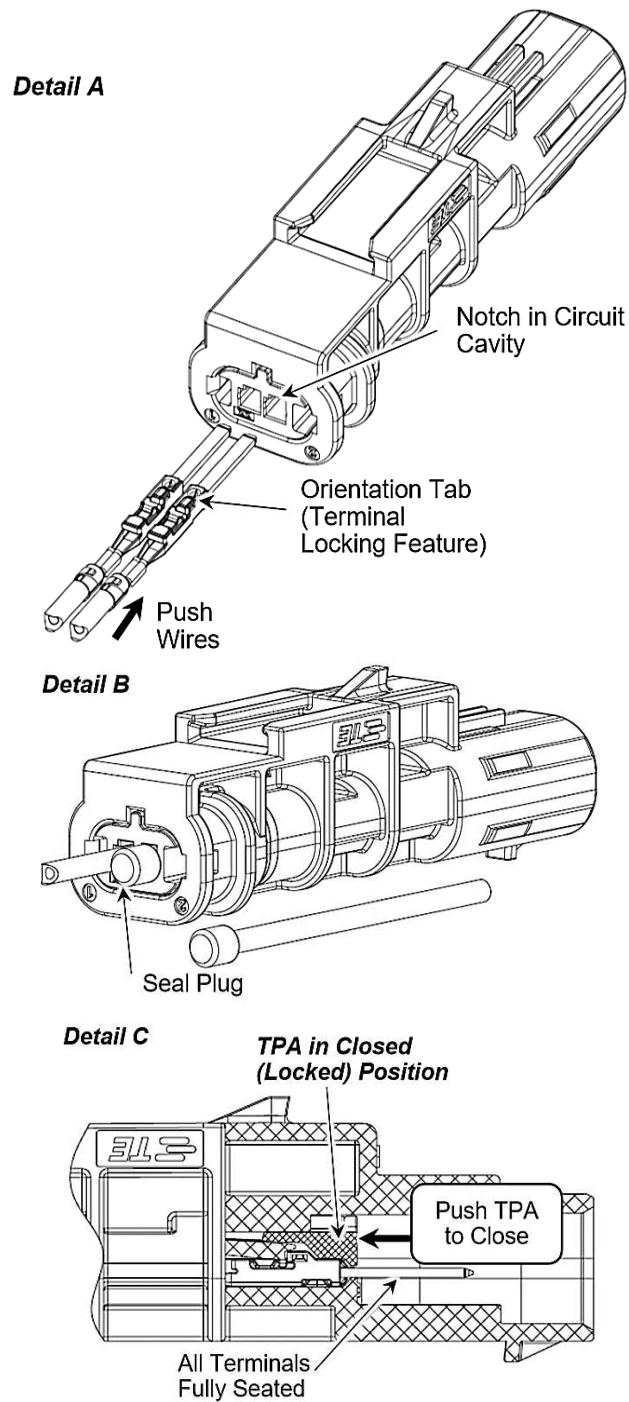

Figure 12
- a. Align the terminal with the selected circuit cavity of the housing so that the terminal orientation tab faces in the same direction as the notch in the circuit cavity. See Figure 12, Detail A.
- v. Install a seal Plug (part number 0413-003-1605) into any unused circuits. Note plugs will not sit flush if both cavities are being sealed using sealing Plug. See Figure 12, Detail B.
- vi. After all terminals have been inserted, move the TPA to the closed (locked) position. The TPA should be easy to close. See Figure 12, Detail C.